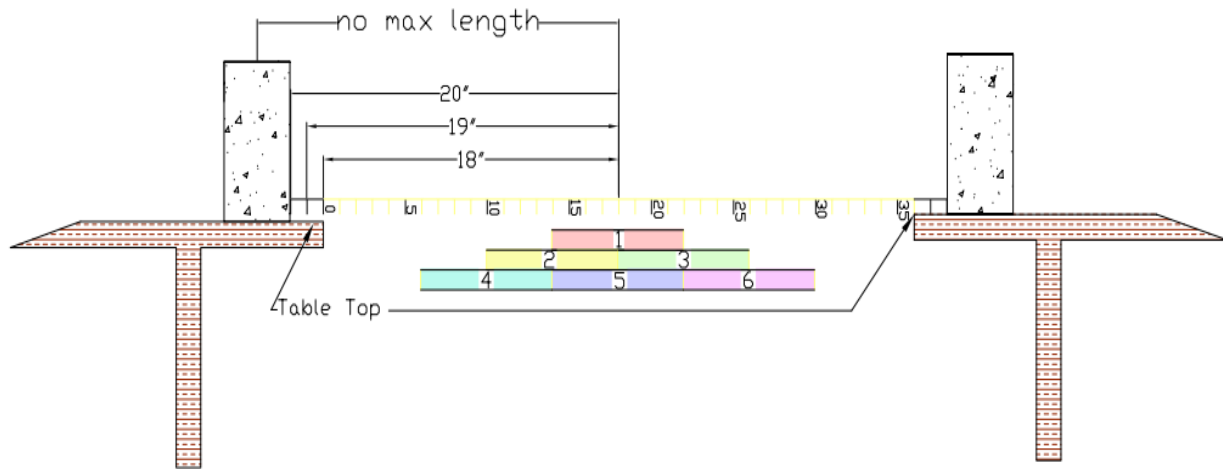

Figure 7: Possible Loading Positions
4. The roadway/loading surface must be provided at all potential wheel support locations (refer to Figure 7). Since the truck that is loaded has "wheels" that are each 2" wide, the roadway shall
2. The truck will be placed on the loading surface at a point that will be determined by the roll of a die, which will take place at the time all bridges are received (see Figure 7). The random point will remain the same for all teams. A load transfer bar will be placed across the top of the truck with chains connected at each end extending downward to connect to a loading platform beneath the structure. Volunteers will test each structure by placing the supplied weights onto the loading platform until failure. All bridges will be checked to assure the crossbar will fit prior to the competition and if the truck needs to be shifted, a deduction will be assessed.
4. The loading apparatus (truck + loading platform) must be capable of being supported on the loading surface (roadway) as shown in the diagram. This means that your structure **MUST** have enough roadway surface for the truck to be placed at one of the six locations along span (see Figure 7), but each bridge does not need a continuous surface. The roadway should be reasonably level (some arch is permitted) from one end of the bridge to the other without obstruction. Bridges with roadways that have excessive slope causing the truck to slide off of the bridge will not be aided in the loading process and tested as best possible, with a deduction.